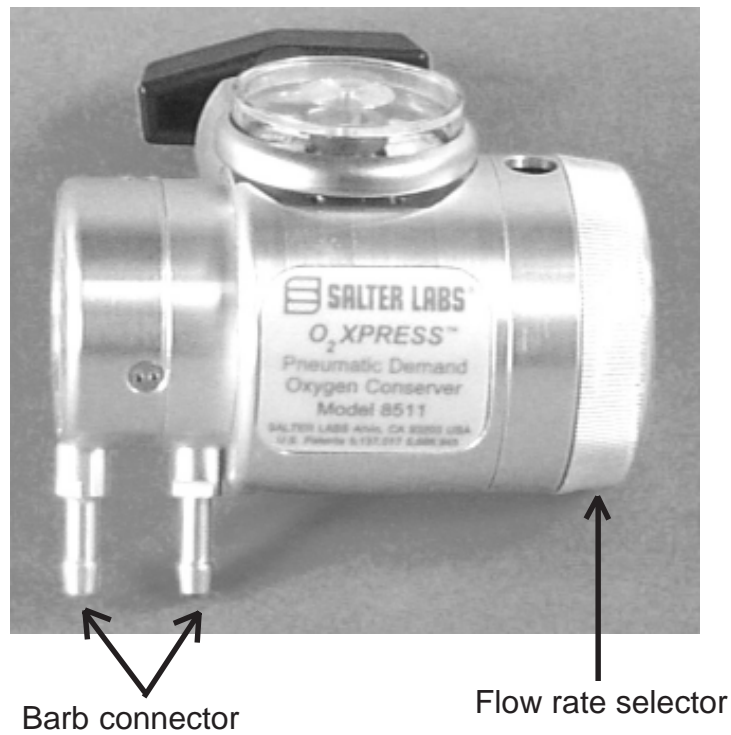

Figure 2
1. Firmly press the two ends of the cannula onto the two barb connectors on the bottom of the conserver. The orientation of the cannula makes no difference. The cannula lines may be attached to either barb connector (Figure 2 and Figure 4).